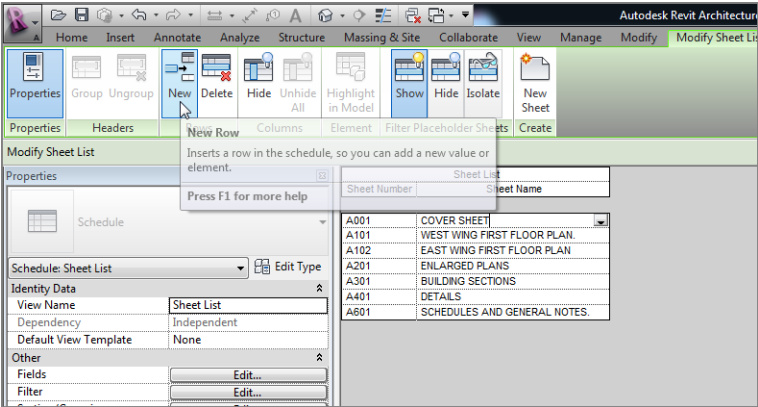

FIGURE 14.23: You can add a placeholder row.
- 2. On the Rows panel, click the New button, as shown in Figure 14.23.
- 3. Call the new row COVER SHEET A001 (see Figure 14.23).